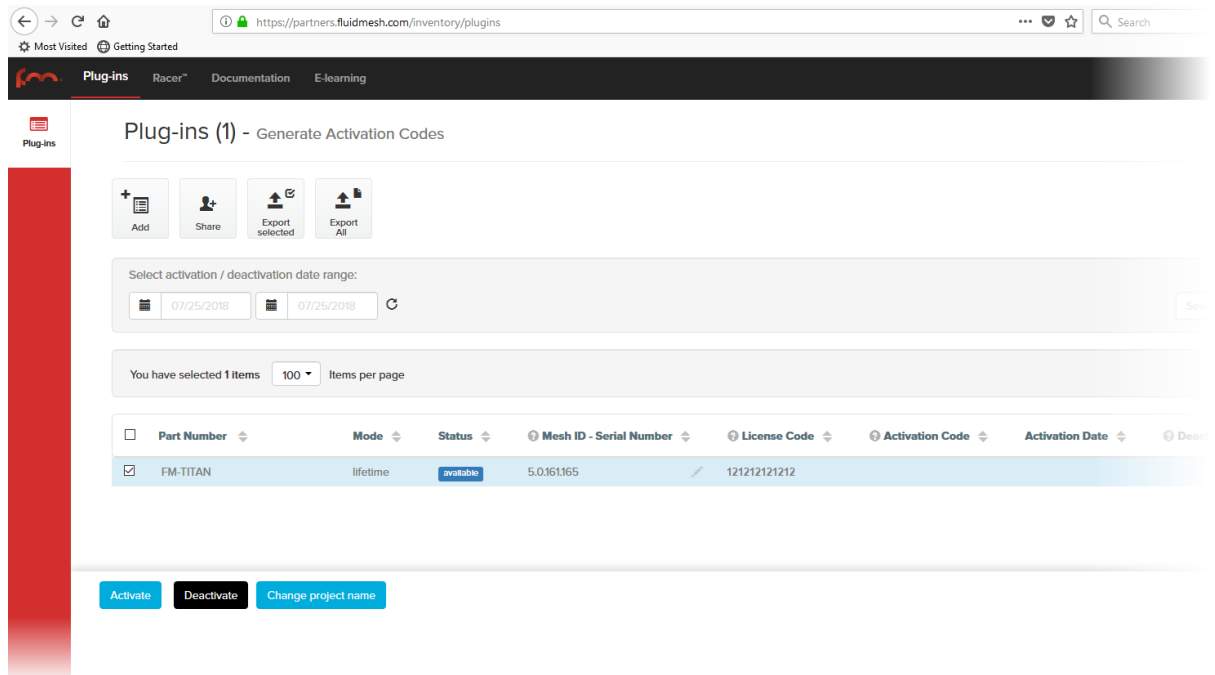

Figure 65. Partner Portal Plug-ins page (License code plug-in)
- When you purchase a generic 16-digit *License code*, the License code and corresponding plug-in will be listed on the Plug-ins page (Figure 65 \(page 147\)).